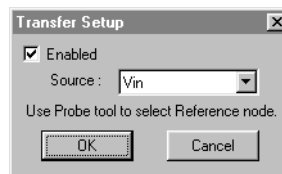
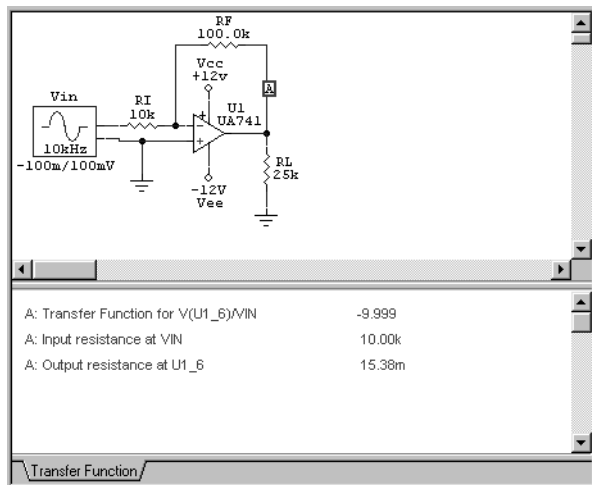

Figure 6.23. Use this dialog box to set up a Transfer Function Analysis.
Figure 6.24. Transfer Function Analysis data.
- 2 Click the **Transfer** button to display the dialog box pictured in Figure 6.23.
The waveform data in Figure 6.24 was generated by simulating the Analog.ckt circuit using the values shown in Figure 6.23. This analysis shows the gain from the specified source to the output (the point you click with the Probe Tool). Notice that it shows DC resistance seen by the source and the DC resistance seen by the output load.